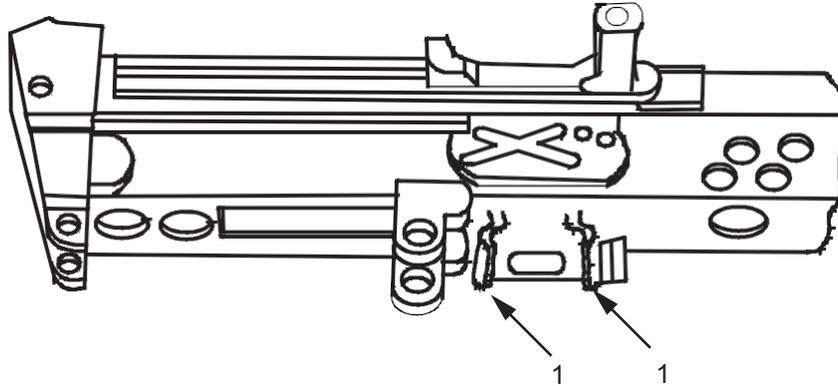

Figure 9. Dovetails on Bottom of Receiver.
4. Inspect for damaged/bent magazine dovetails (Figure 9, Item 1) on bottom of receiver. Inspect FSIK for damage.